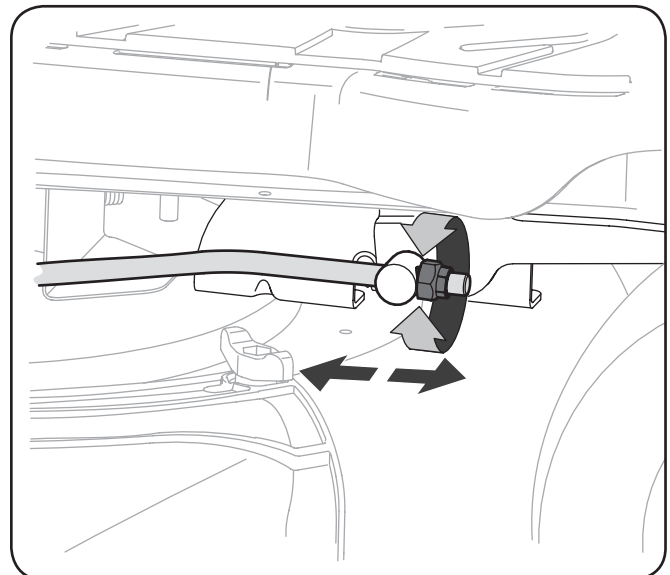

Figure 6-4
- Locate the flange lock nut on the front end of the PTO Lift Rod. See Figure 6-4.